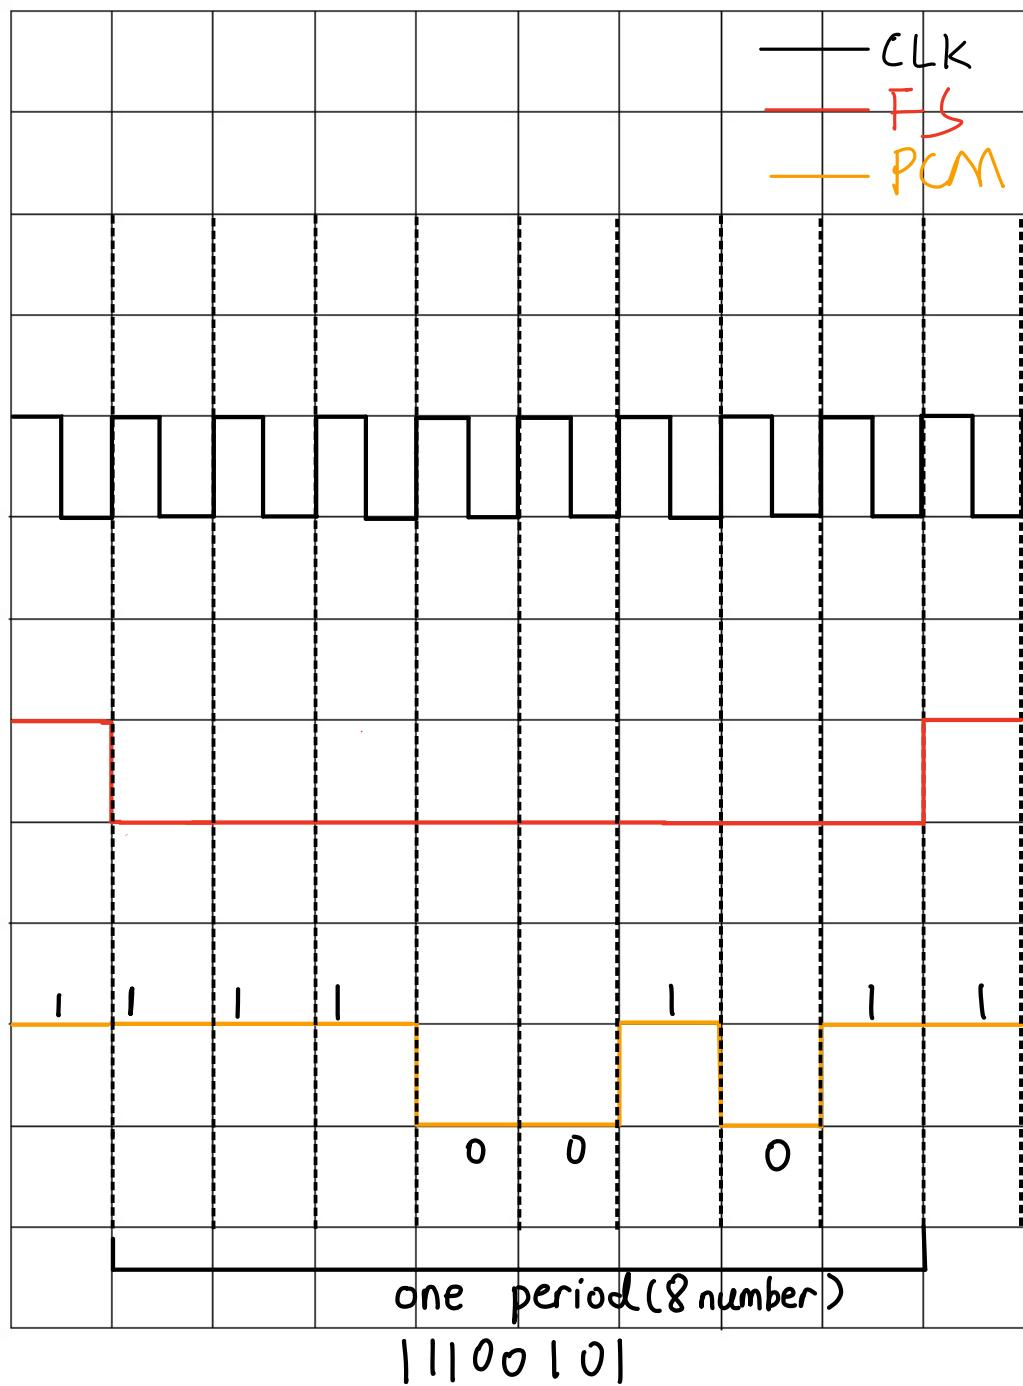

Figure 16: FS, PCM data and the clock signal.
- Draw in the space provided of Figure 16 the FS, PCM data and the clock signals, dividing the graphs into three areas, one for each signal. Annotate in your drawings the start and the end of each bit and frame, and indicate bit-0 and bit-7 of each frame. [3 marks]